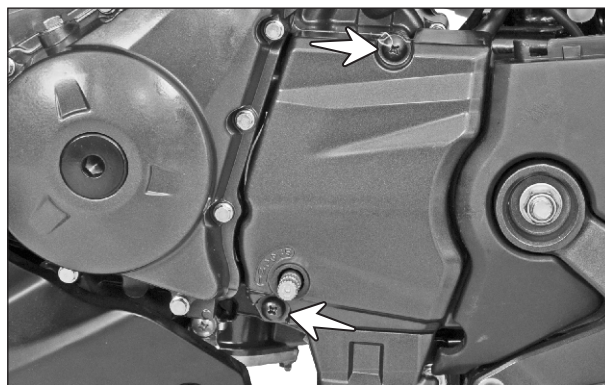

Fig. 2.91
- Remove the CRR pan head screws (M6x20 - 2 nos.) from the cover engine sprocket mounting and take out the cover. (Fig. 2.91)